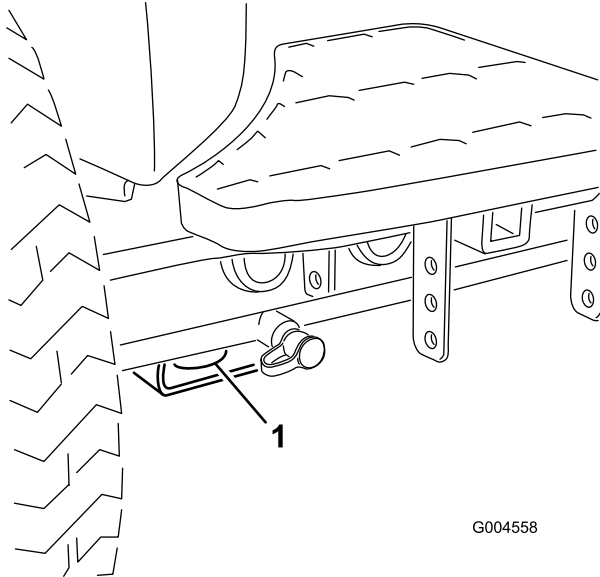

Figure 46
- Front—the hole in the rectangular pad, under the axle tube, inside each front tire (Figure 46).